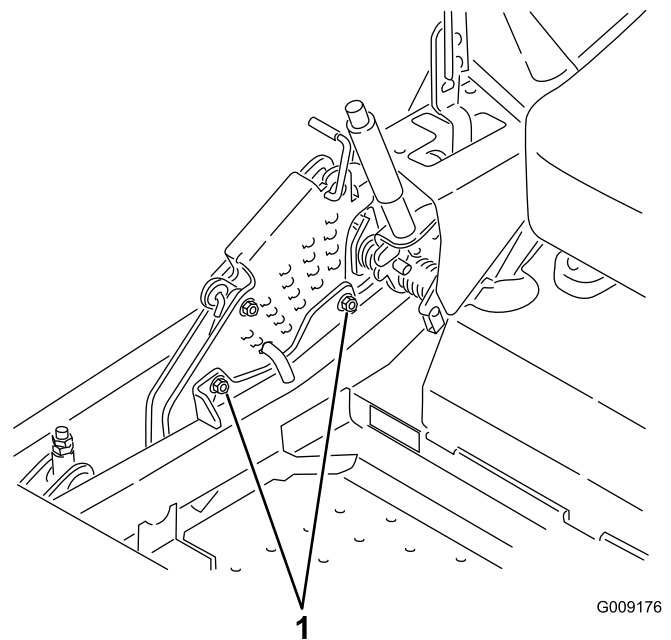

Figure 88
12. To adjust the single point system, loosen the two bolts at the bottom of the height of cut plate. Refer to Figure 88.
- Tighten the two bolts at the bottom of the height of cut plate (Figure 88). Torque to 27-33 ft-lb (37-45 N-m).